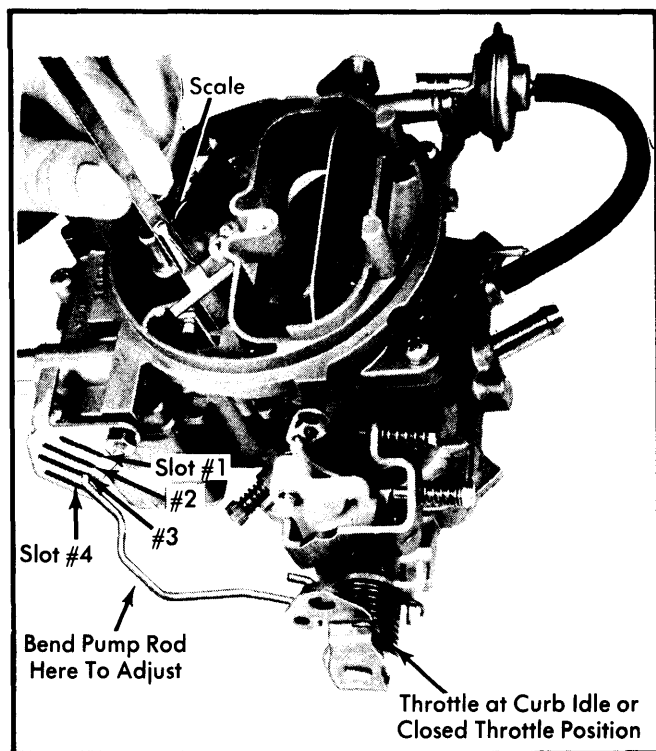

Fig. 3 Adjusting Accelerator Pump Stroke
- 1) Close throttle valves completely by backing off curb idle screw and moving fast idle cam to off choke position. Put pump connector rod in number 2 slot of accelerator pump arm. See Fig. 3.
- 3) If pump travel is not within specifications, bend pump operating rod until pump travel is correct. See Fig. 3.